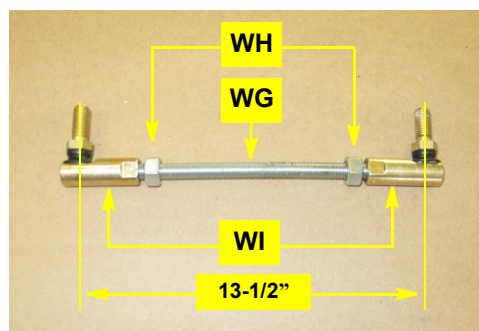

Figure 1d: Assembled threaded link rod
- d. Screw two nuts **WH** then swivel rod ends **WI** onto **WG** to achieve a center-to-center stud measurement of 13-1/2" (Figure 1d - not to scale). Leave **WH** loose until you complete linkage adjustment at step 2f.